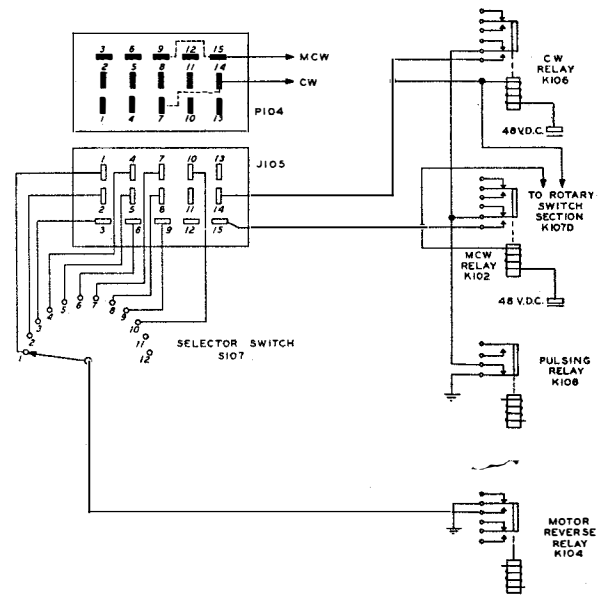

Fig. 6 Automatic Emission Selection Circuits (Dwg. No. 500 2657 00B)
**2.6.4. Automatic Emission Selection.** This transmitter has been provided with a means of making connections so that any chosen type of emission will be automatically selected when a channel is dialed. The transmitter normally sets up for voice emission when a channel is selected so that it is only necessary to decide which channels are to be operated with predominately CW or MCW emission and to make the proper connections in plug P104. By making connections from terminals #1 through #10 to terminals #14 and #15 (Refer to Fig. 6) either CW or MCW emission will be selected when a channel is dialed, depending on which jumper connection was made.